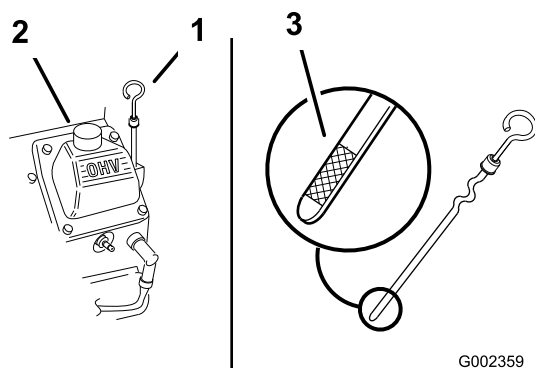

Figure 47
- Clean around the oil dipstick (Figure 47) so that dirt cannot fall into the filler hole and damage the engine.
- Remove the oil dipstick and wipe the end clean (Figure 47).
- Slide the oil dipstick fully into the filler tube (Figure 47).
- Slowly pour approximately 80% of the specified oil into the filler tube (Figure 47).